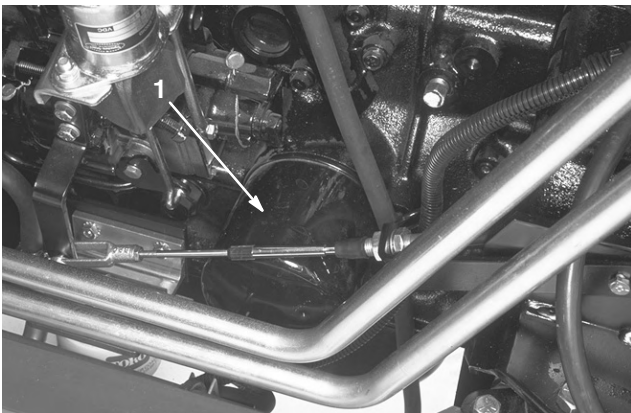

Figure 41
3. Remove drain plug and allow oil to drain into pan. Remove and replace oil filter (Fig. 41); refer to parts catalog for replacement number. Apply a coating of oil to the filter O-ring before installing filter. Refer to the engine manual for the filter tightening procedure.